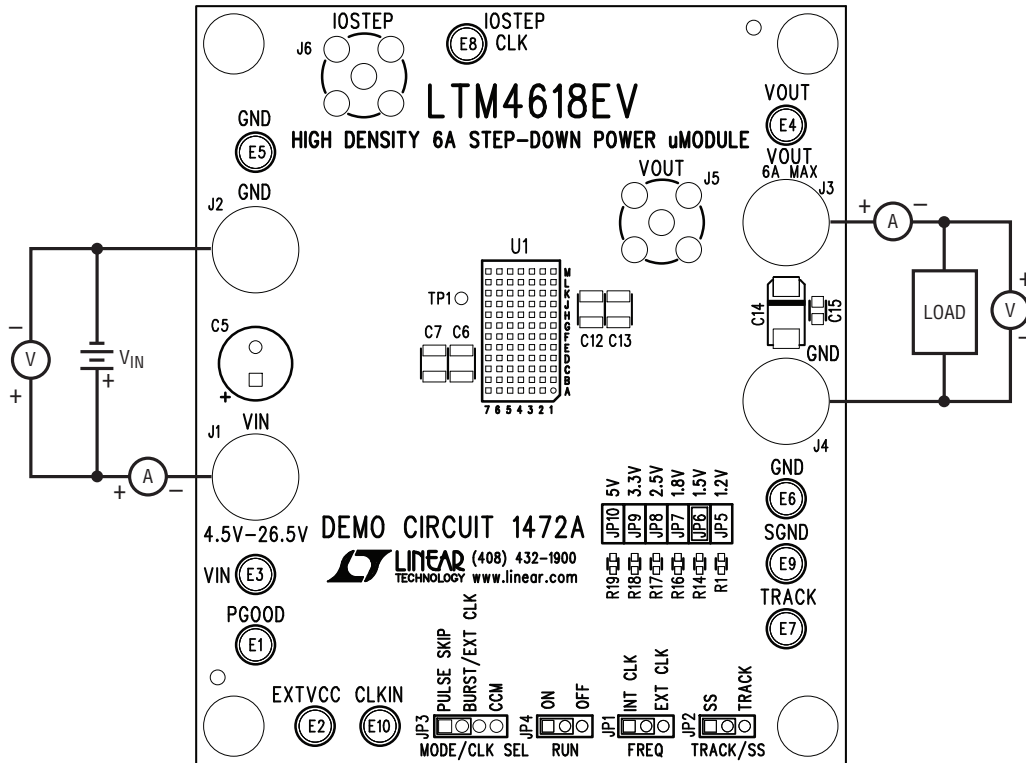

Figure 1. Proper Measurement Equipment Setup
Demonstration circuit 1472 is easy to set up to evaluate the performance of the LTM4618EV. Please refer to Figure 1 for proper measurement equipment setup and follow the procedure below.
1. With power off, connect the input power supply, load and meters as shown in Figure 1. Preset the load to 0A and  $V_{IN}$  supply to be 0V. Place jumpers in the following positions for a typical 1.5VOUT application: